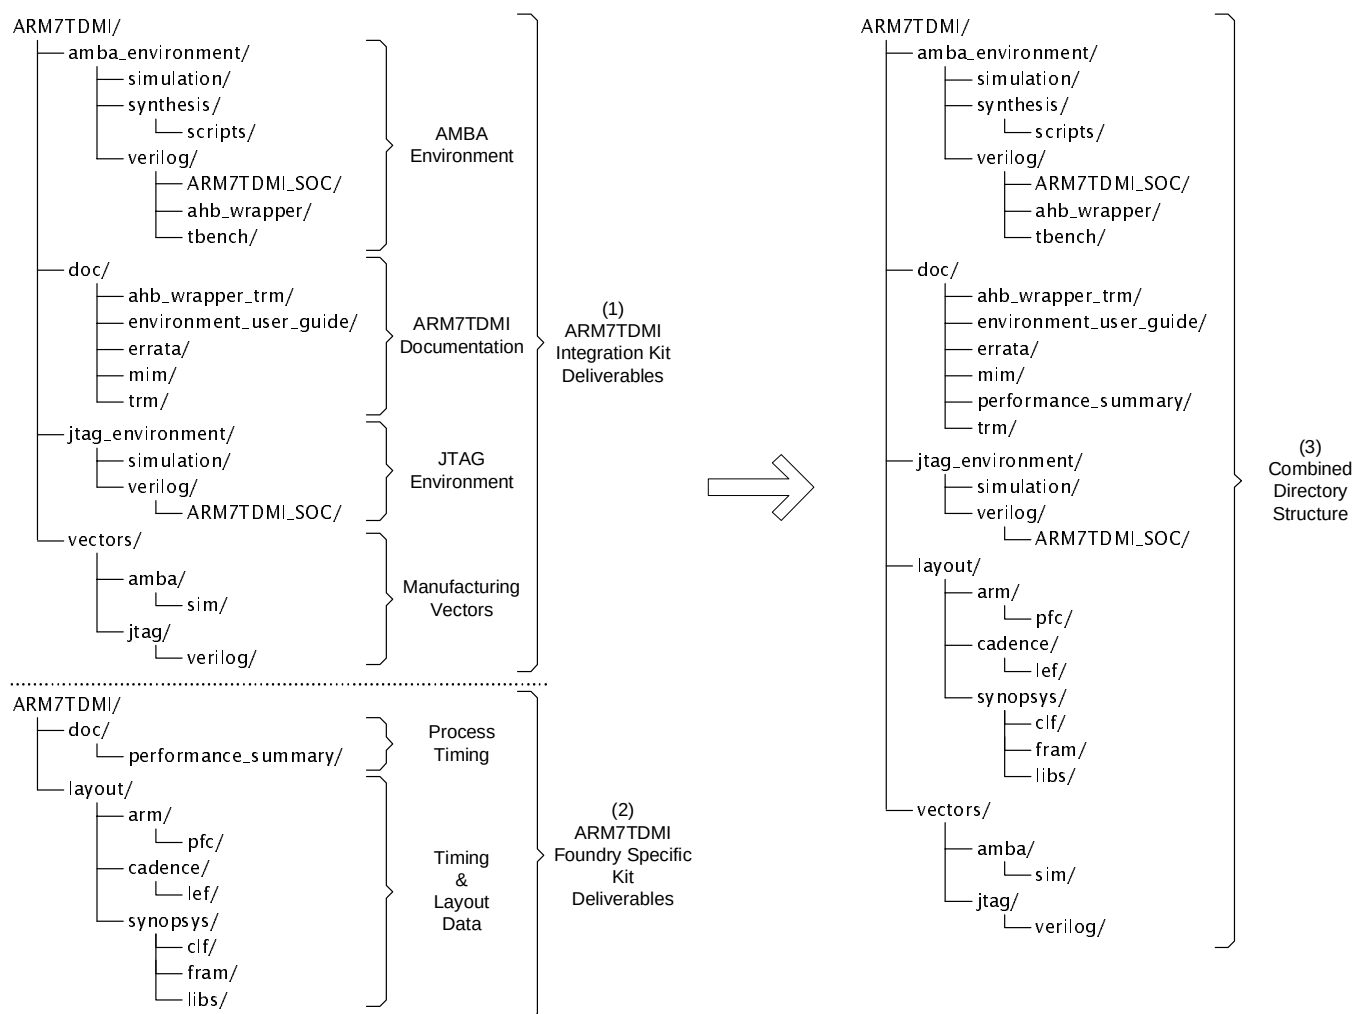

Figure 1 - Directory Structure
Figure 1 shows the supplied directory structure of each of the key components of the DesignStart kit. It is important that you ensure the directory structure in Figure 1 (3) is preserved by copying the components of (1) and (2) together to form the required structure- this will ensure that steps in the following chapters proceed smoothly.
1. Unpack the Integration Kit and Foundry Specific kit tar files provided by ARM, recreating the directory structure shown in Figure 1 (3).
Before running synthesis, you should ensure that the directory structure described in Figure 1 (3) has been generated.